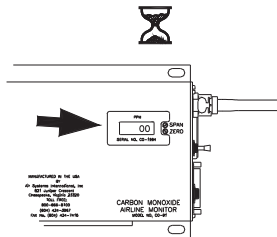

Figure 14
4. Allow digital display to stabilize approximately 15-30 seconds (Figure 14).